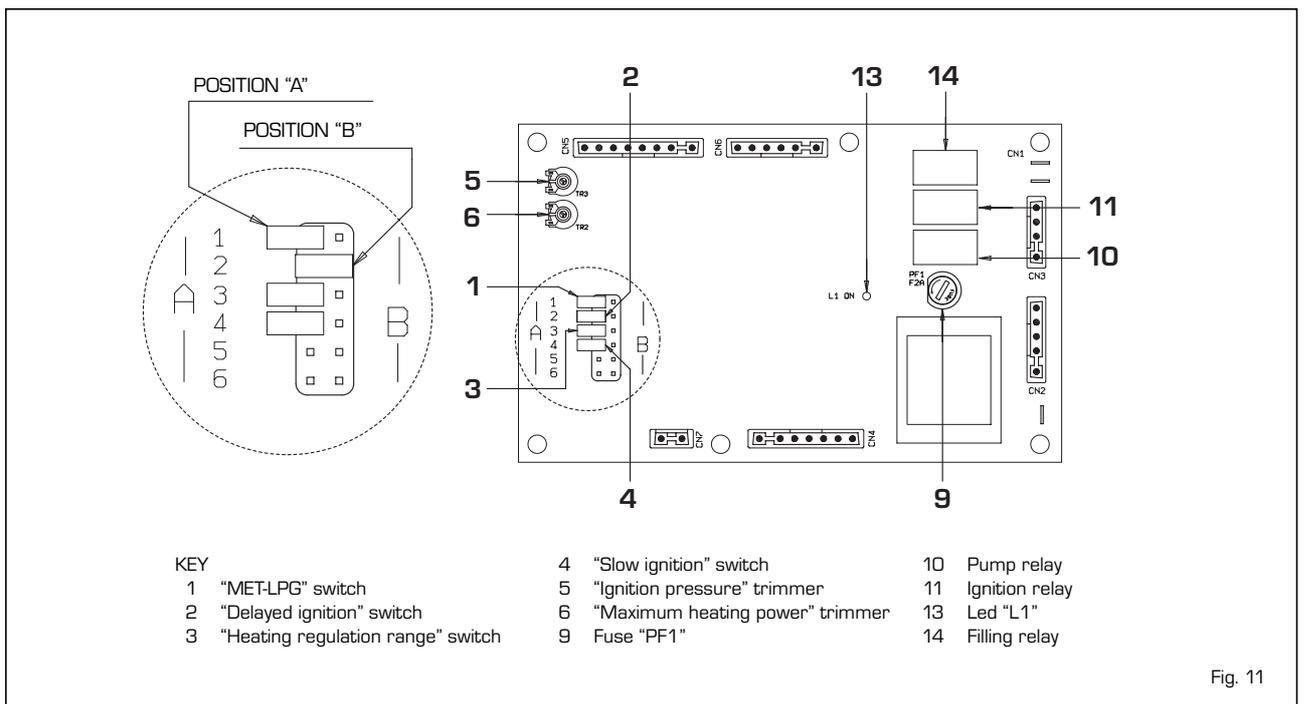

Fig. 11
- **"IGNITION PRESSURE" trimmer** (5 fig. 11)
- **"MAXIMUM HEATING POWER"** (6 fig. 11)
- **"MET-LPG" connector** (1 fig. 11)
- **"DELAYED IGNITION" connector** (2 fig. 11)
- **"DELAYED IGNITION" connector:** (4 fig. 11)
- **"HEATING RANGE REGULATION" connector** (3 fig. 11)
- **Led "L1"** (13 fig. 11)
- Slide off the burner manifold (3).
- Replace the main nozzles (6) and the copper washer (4) with those provided in the kit; to carry out this operation use a fixed size 7 spanner.
- Move the connector "MET-LPG" of the card onto the position corresponding to the gas used (1 fig. 11).